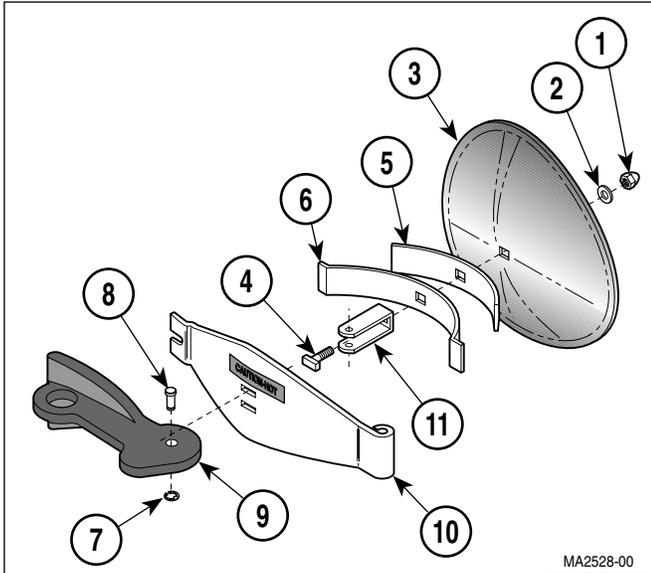

Figure 4-21. Door Assembly Disassembly / Assembly
- (1) Remove cap nut (1, Figure 4-21), washer (2), and door (3) from T-bolt (4).
- (2) Remove short spring (5) and long spring (6) from T-bolt (4).
- (3) Remove retaining ring (7), pin (8), handle (9), and door cross arm (10) from U-bracket (11).
- (4) Remove T-bolt (4) from U-bracket (11).